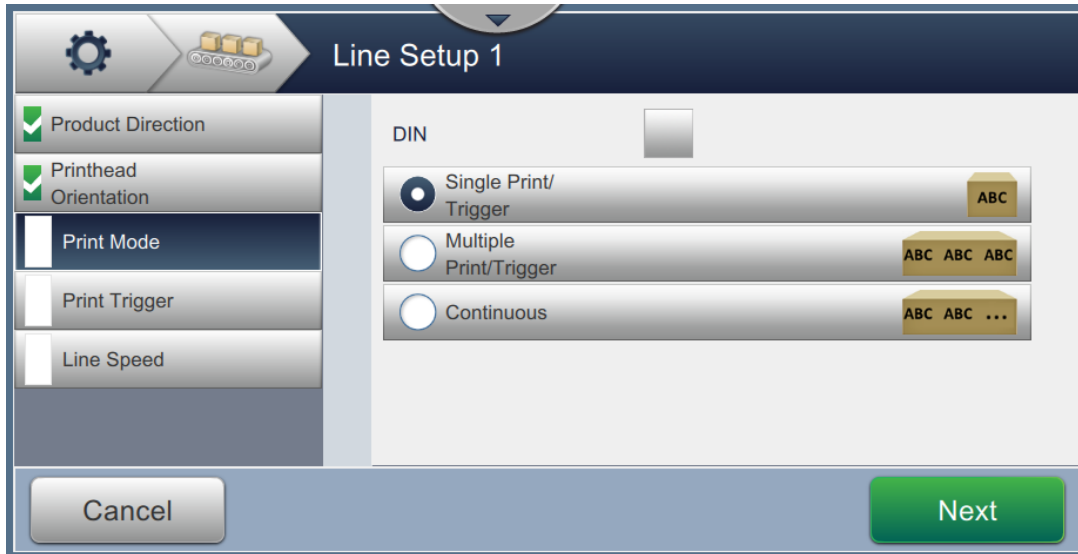

Figure 6-30: Line Setup - Print Mode
1. Touch the *Print Mode* on the Line Setup Setting screen as shown in Figure 6-30.
1. Select the *Multiple* option as shown in Figure 6-30. Touch the  button.
1. Select the *Continuous* option as shown in Figure 6-30 on page 6-44. Touch the